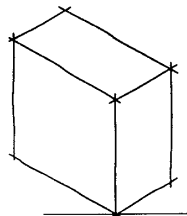

FIGURE 2.59 ■ Step 1, sketch the box.
Step 1. Develop a proportional box, as in Figure 2.59.